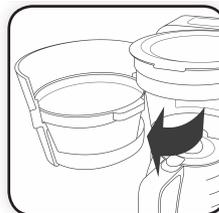

Figure 12
- 3 Open the Front Loading Brew Basket door. (Figure 12)